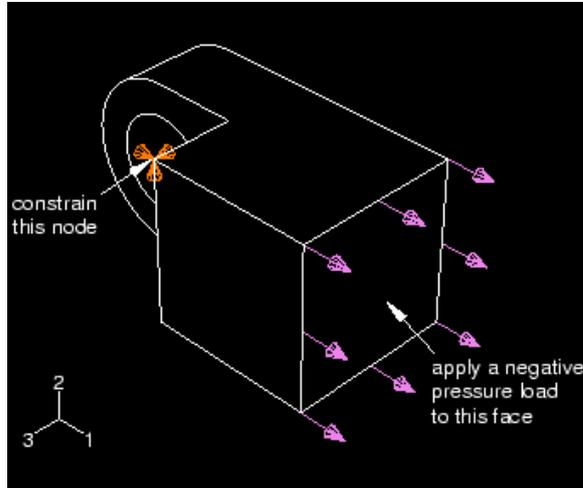

Figure C-42 The second hinge is constrained and loaded.
- A load called **Pressure** that you apply to the end of the solid hinge piece during the second analysis step. Figure C-42 illustrates the constraint and the pressure load applied to the solid hinge.